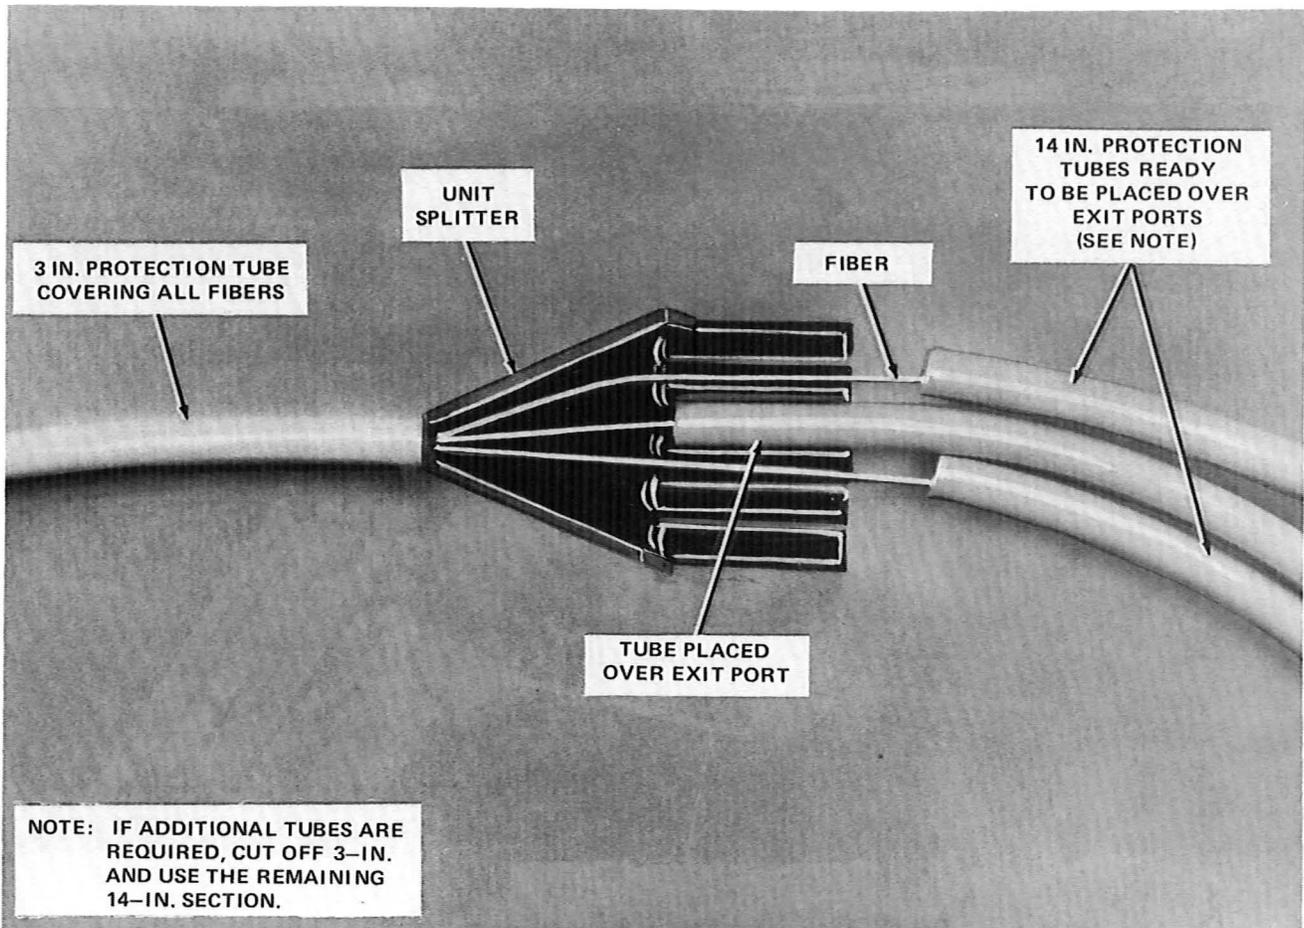

Fig. 56—Fibers Separated Into Three Groups (Six Groups Maximum)
8.04 After the unit splitter is installed, the fibers can be separated into either single fiber or groups of fibers, as required. Once the fibers are separated, place the remainder of the cut tube over the fiber(s) and onto the exit port of the unit splitter, as shown in Fig. 56.